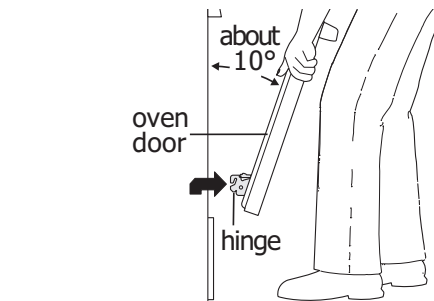

Figure 44: Holding door for removal
2. Pull the door hinge locks on both left and right door hinges down from the oven frame completely towards the oven door (See Figure 44). A tool such as a small flat-blade screwdriver may be required.
4. Push the door hinge locks up towards and into the oven frame on both left and right oven door hinges to the locked position (See Figure 44).